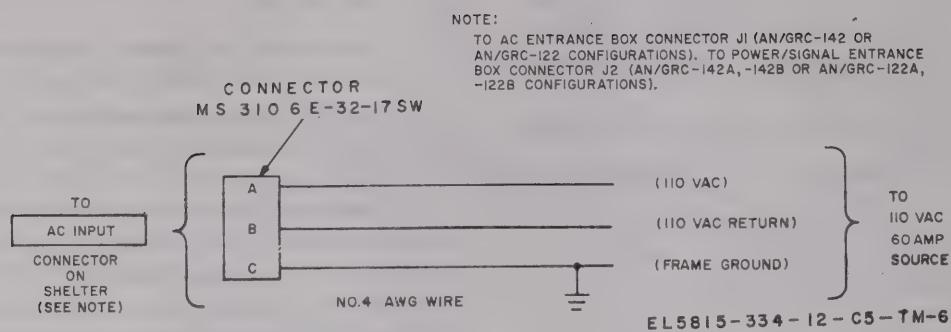

Figure 2-3. External ac source power cable, fabrication details.
(3) Connect the black lead from terminal C of the dc power cable plug to the negative (–) side of the battery by removing the bolt from the battery connector, inserting the cable lugs, and replacing the bolt. Make sure that all connections are clean and tight.
(4) Connect the red lead from terminal A of the dc power cable plug to the positive (+) side of the battery. Make the connection the same way as for the negative terminal.
(5) Connect the end of the cable shield to a convenient chassis ground.
c. Connection of Ac Power. On certain models, an ac power cable must be fabricated (fig. 2-3) for connection to the shelter ac input connector. Check
the packing slip to determine if the ac power cable has been supplied. A diagram of this cable is shown in figure 2-3. Number 4 or 6 AWG wire is recommended; however, for long runs, it may be necessary to use larger wire.